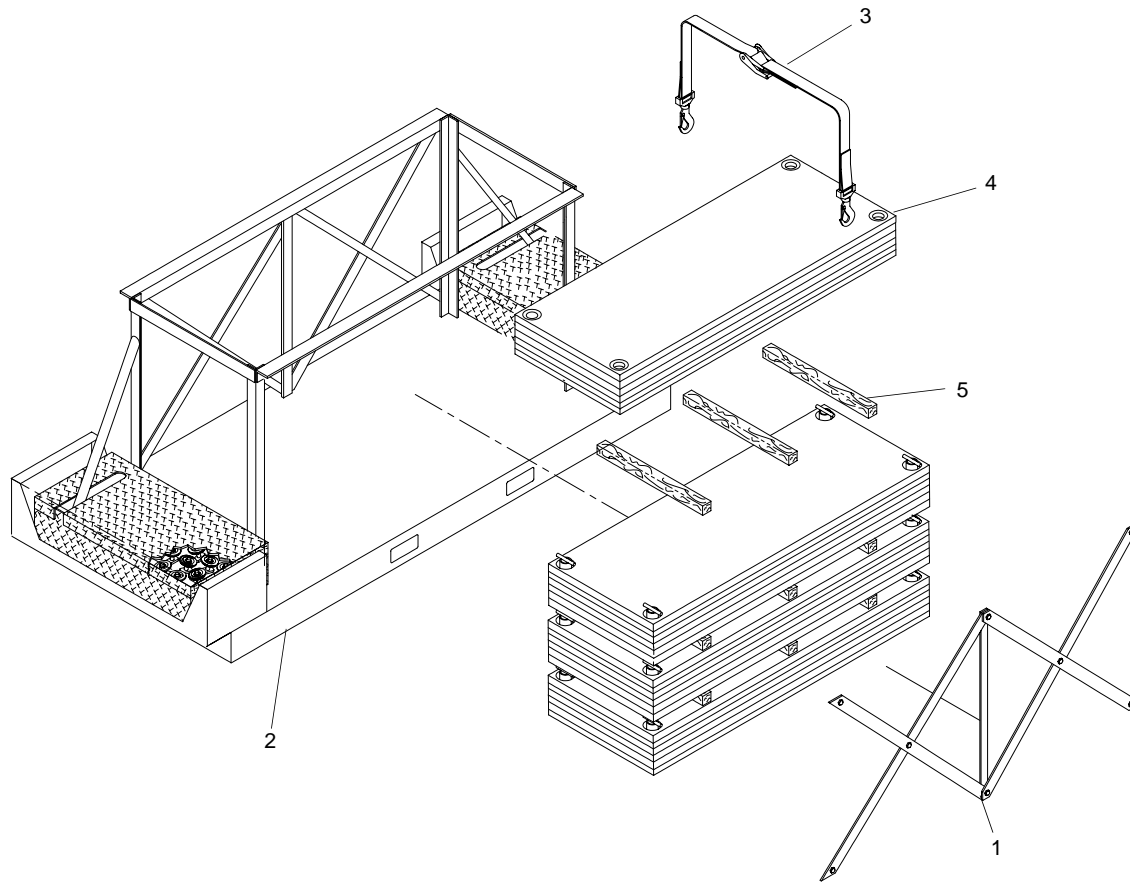

Figure 10. Deck Mat Container
2. Remove flat bars (figure 10, item 1) from side of deck mat pallet (figure 10, item 2).
3. Remove ratchet strap tie downs (figure 10, item 3).
4. Remove deck mat (figure 10, item 4) stacks.
- a. Using forklift, or appropriate handling device, remove first stack of deck mats (figure 10, item 4) from deck mat pallet (figure 10, item 2).
- b. Remove wood beams (figure 10, item 5) from container.
5. Repeat previous step for removal of remaining deck mat (figure 10, item 4) stacks from deck mat pallet (figure 10, item 2).
6. Remove first deck mat (figure 10, item 4) from stack.